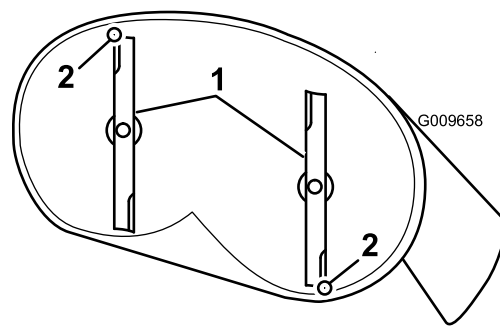
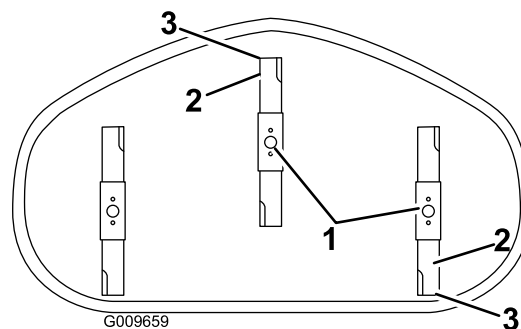

Figure 65
Figure 66
4. Carefully rotate the blades so they are facing front to rear (Figure 65 and Figure 66).
5. Measure from the tip of the front blade to the flat surface, and the tip of the rear blade to the flat surface (Figure 65 and Figure 66).
9. After adjustment, check the front-to-rear slope again, continue adjusting the nut until the front blade tip is 1.6 to 7.9 mm (1/16 to 5/16 inch) lower than the rear blade tip (Figure 65 and Figure 66).